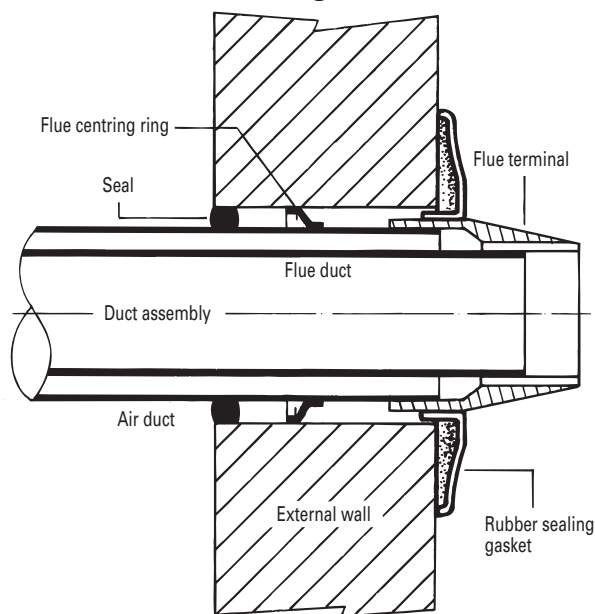

Fig. 33. Gas control valve adjustment.
Disconnect the electrical supply plug from the solenoid operator on the gas valve adjacent to the Modureg actuator by unscrewing the retaining screw. See Fig. 33.
Reconnect the electrical supply plug to the gas valve. See Fig. 33. Loosen the burner pressure test point screw and connect a pressure gauge. See Fig. 33.
If the burner pressure is low check that the supply pressure at the gas valve is at least 19 mbar (7.6in wg). See Fig. 33.
- Remove the grey plastic cover over the pressure adjustment screws on the gas valve. Place a small screwdriver in one of the slots and carefully lift the cap. See Fig. 33.